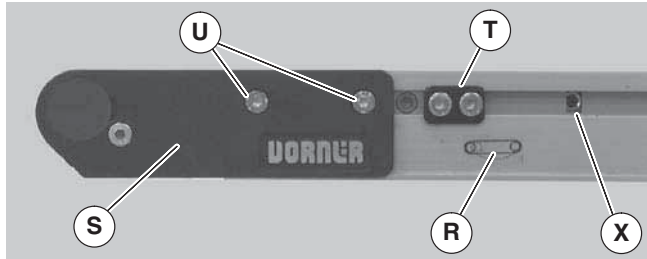
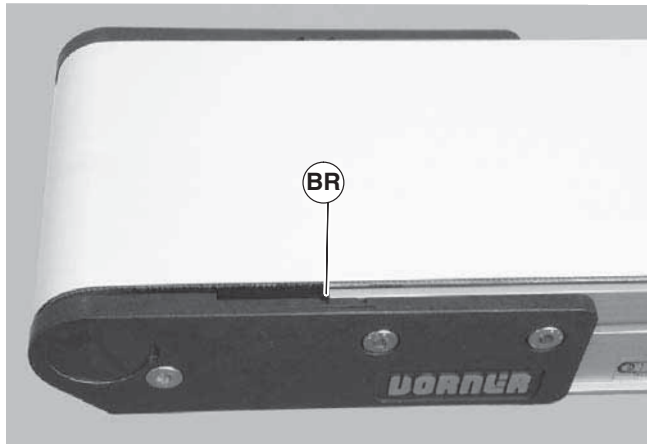

Figure 37
Figure 38
1. On tension end of the conveyor, identified with a  label (Figure 37, item R), adjust head plate assembly (S): On both sides of conveyor, loosen fastening screws (U) and rotate pinion gear (X) to adjust head plate assembly.
2. Adjust head plate assembly so end of conveyor frame aligns with first tensioning mark (Figure 38, item BR). Tighten fastening screws (Figure 37, item U) on both sides of conveyor to 60 in-lb (7 Nm).
3. If equipped with cam tracking assemblies (Figure 37, item T), reposition against head plates and adjust belt tracking. Refer to "Conveyor Belt Tracking", page 18.